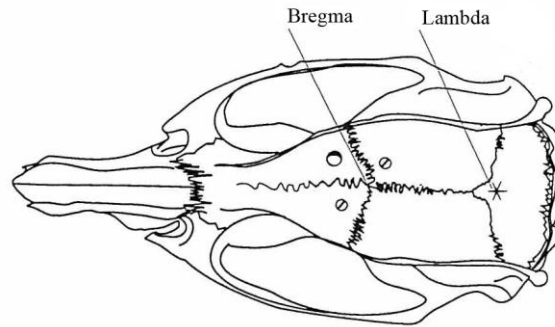

Figure 12. Close-up of the skull with a Trephine-drilled hole and two anchor screws placed in different bone plates.
4. Drill a hole where the Guide Cannula is to be implanted. It is preferable to use a Trephine Drill Bit which cuts clean holes without damaging the brain. Determine the position of the hole using Bregma coordinates, pointing with the guide. Drill 2-3 holes for the anchor screws positioned in different bones of the skull using an anchor screw drill Bit. Screw the anchor screws into the skull just so that they go through the bone. See figure 12.